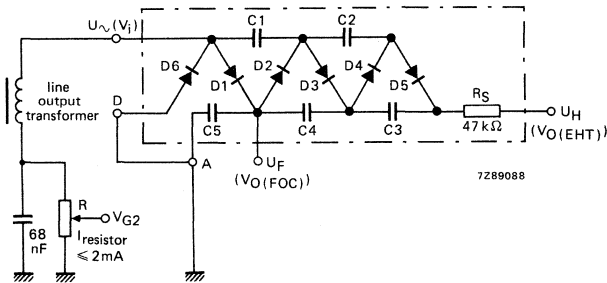

Fig. 5.
$T_{amb} \leq 65 \text{ }^\circ\text{C}$; see also Fig. 5
Resistor (R) current for V_{G2} voltage divider (see Fig. 5)